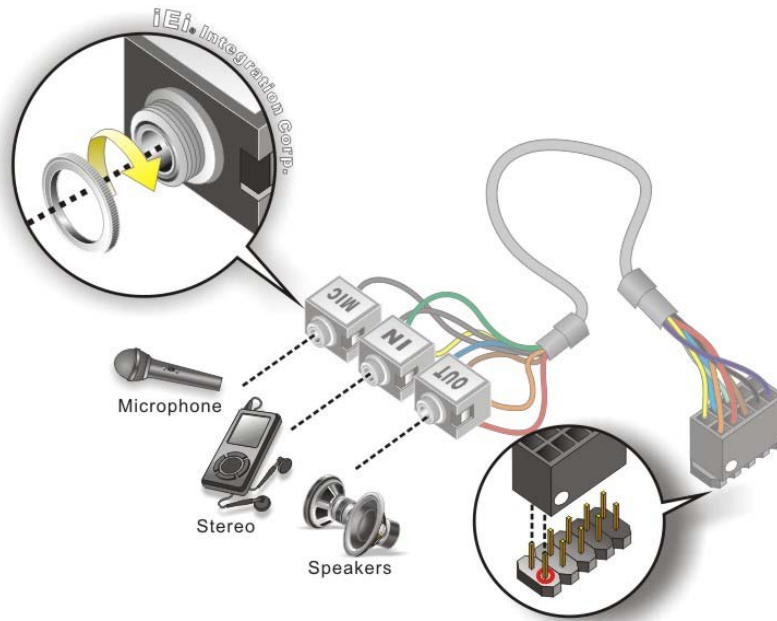

Figure 4-18: Audio Kit Cable Connection
Step 2: Align pin 1. Align pin 1 on the on-board connector with pin 1 on the audio kit connector. Pin 1 on the audio kit connector is indicated with a white dot. See **Figure 4-18**.